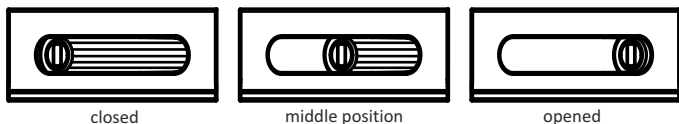

Fig. 5. The example adjustment of the air supply to the furnace (ash tray façade).
- the handle adjusting the damper, by adjusting the chimney draft, (see fig. 5),